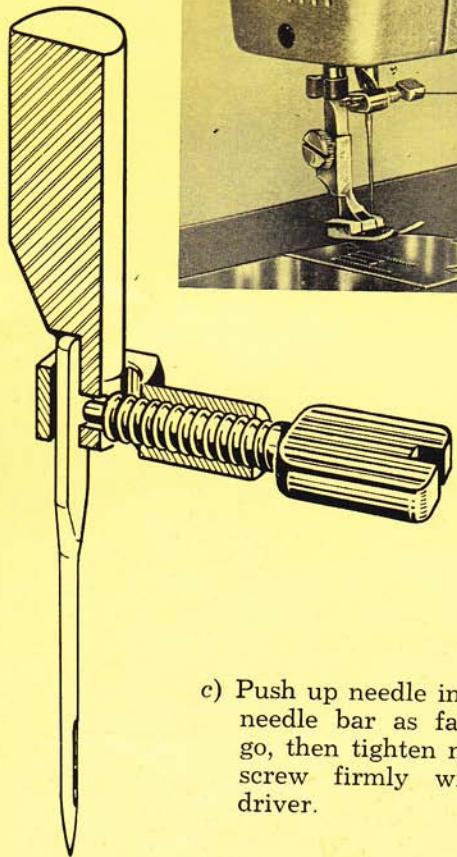

Fig. 5
- b) Loosen the screw « A » and insert needle into needle clamp as shown in Fig. 5. Make certain that flat side of needle shank is toward the right.